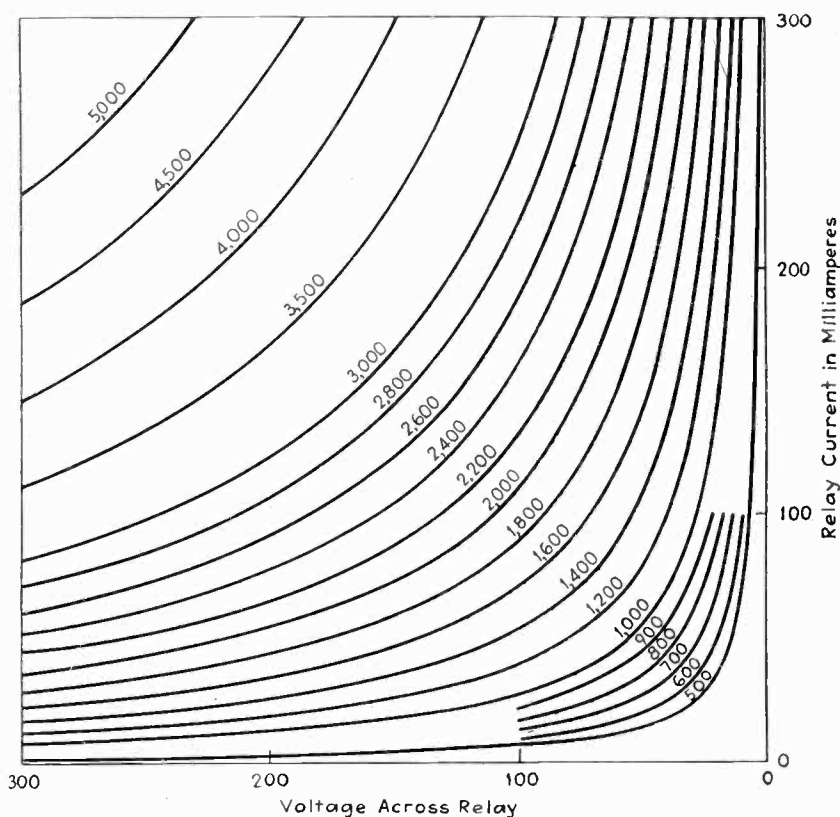

Fig. 2—Hyperbolic curves giving telephone relay ampere turns as a function of voltage and current
lay, showing the magnetomotive force plotted as a function of relay current and voltage on rectangular coordinates, are rectangular hyperbolas giving loci of equal ampere-turns. The characteristics of rectangular hyperbola* are such that a change of scale does not change their relative shapes, and it is this property which permits us to superimpose the relay and tube characteristics even though the scales may be dissimilar. By changing the scale of the hyperbolas of Fig. 2, using Eq. (3) for determining the conversion ratio, the same hyperbolic curves can be used to determine the power output of the tube under operating conditions.
The method of using Fig. 2 in connection with tube static characteristics depends upon having a copy of Fig. 2 to a scale suitable for use with tube characteristics, plotted on some transparent medium. It is essential that the voltage and current scales on this transparent scale be evident, since they must be compared with the equivalent scales of the tube characteristics in order to determine the proper multiplying factors. In using this chart it has been found useful to
It will now be necessary to determine the scale ratio for Fig. 2 when used with any set of tube static characteristics. To do this compare the voltage scale on the relay characteristic with the voltage scale on the tube characteristics, and the current scale of the relay chart with the current scale on the tube characteristics. If the voltage change on the tube characteristics corresponding to a 100 volt change on the relay characteristic is E_t , and if I_t is the plate current variation of the tube characteristics corresponding to a relay current change of 100 milliamperes, then the scale multiplying factor will be
Fig. 3—Superposition of a transparent drawing of Fig. 2 on the static characteristics of the 6L6. The origin of the relay curve corresponds to the operating point, $E_b = 400$, $I_b = 0$. The dotted line is the load line for maximum power output assuming the grid voltage may go to zero.